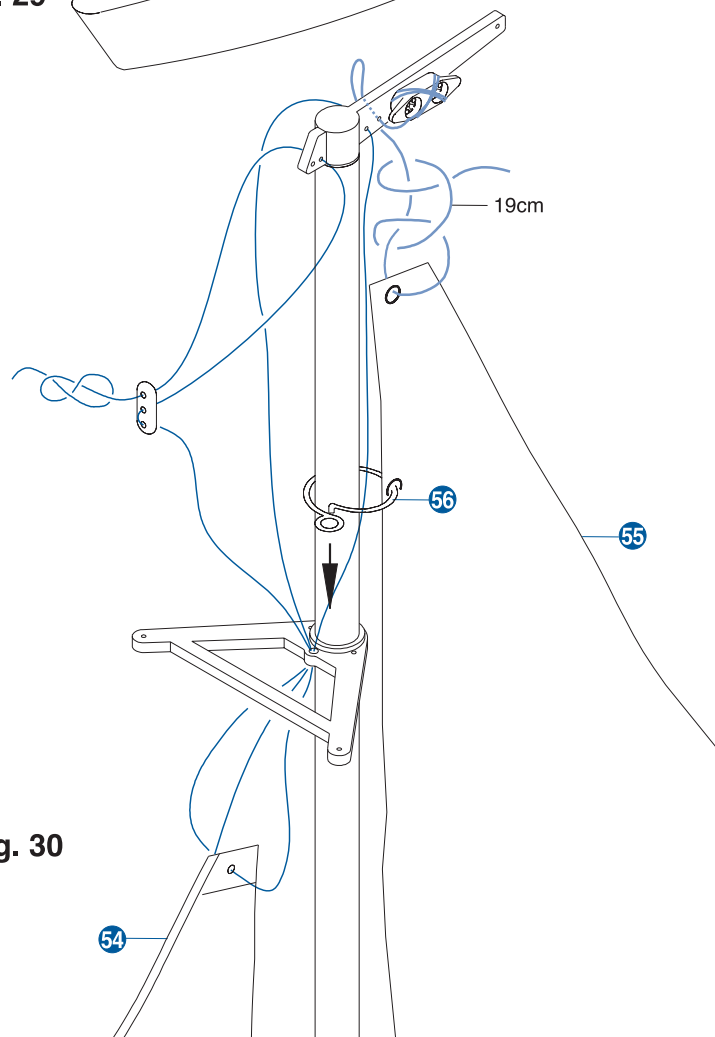

Fig. 30
6. Cut a piece of rigging string to a length of 7-1/2"(19cm). Attach the line to the top of the Main Sail **55**, and secure it to the mast top as shown in Fig. 30. Attach a Sail Ring **56** as shown.